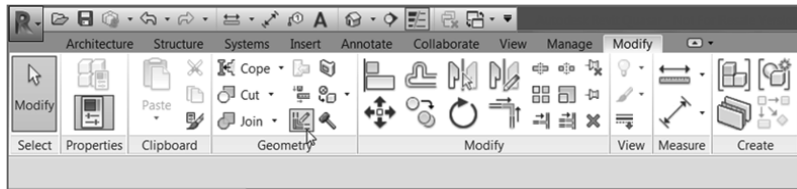

FIGURE 2.52: You'll find the Wall Joins button on the Modify tab.
7. On the Geometry panel of the Modify tab, click the Wall Joins button, as shown in Figure 2.52.